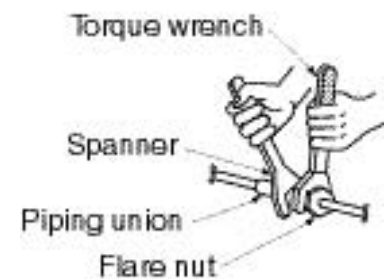

Fig. 12
- Be sure to use both a spanner and torque wrench together, as shown in the drawing, when connecting or disconnecting pipes to/from the unit. (Refer to Fig. 12)